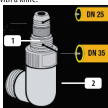

Fig.9
- Screw the connection elbow (1) into the outlet of the pump, with the access pipe upwards. Fig 9
- Connect the nipple (2) into the connecting elbow (1).